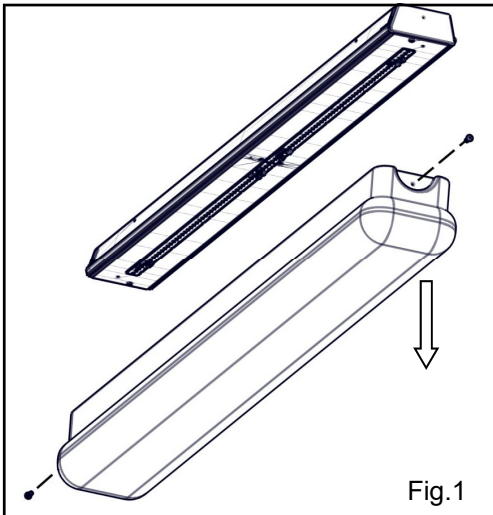

Fig. 1
3. Remove lens from luminaire Fig.1.